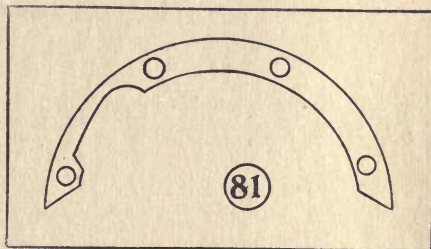

Fig. 81—Magneto coil support shim
2.—These are shown in Fig. 81. They are made of sheet steel and increasing the number of shims decreases the magneto gap, while decreasing the number of shims increases the magneto gap.